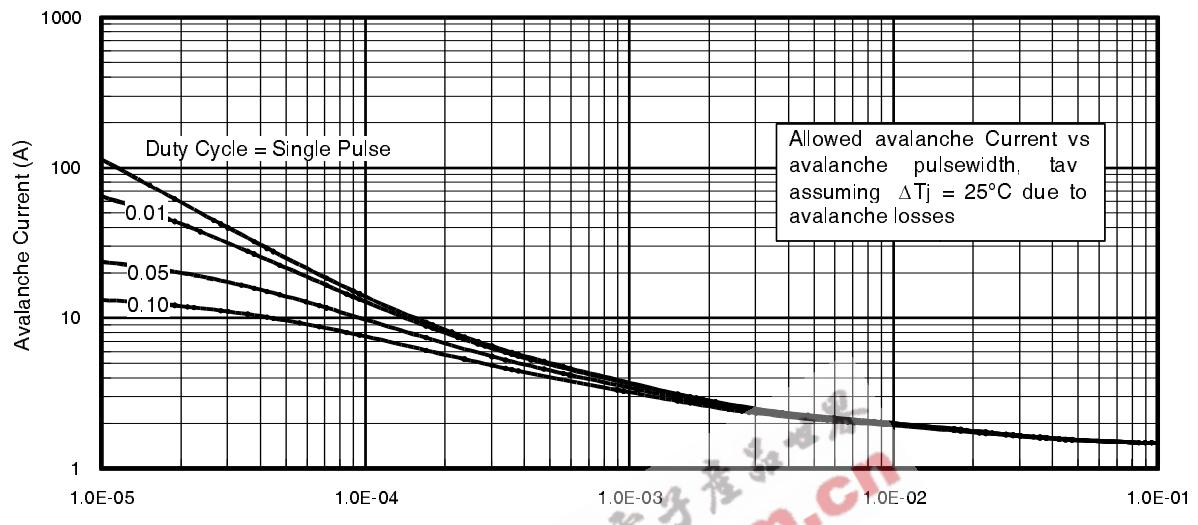

Fig 15. Typical Avalanche Current vs.Pulsewidth
**Notes on Repetitive Avalanche Curves , Figures 15, 16:
7. ΔT = Allowable rise in junction temperature, not to exceed T_{jmax} (assumed as $25^\circ C$ in Figure 15, 16).